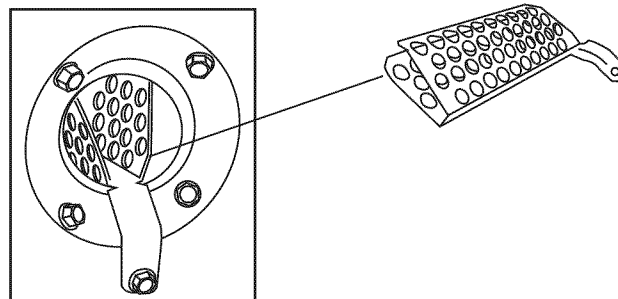

Fig. 18 - NOx Device
1. Remove the screw underneath the heat exchanger inlet that secures the NOx device in the heat exchanger. (See Fig. 18.)